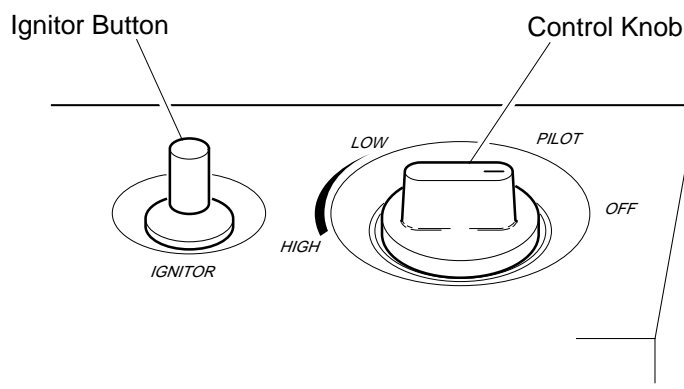

Figure 15 - Control Knob In The OFF Position
4. Wait five (5) minutes to clear out any gas. Then smell for gas, including near the floor. If you smell gas, STOP! Follow “B” in the safety information at the top of page 17. If you don’t smell gas, go to the next step.
5. Press in control knob and turn counterclockwise  to the PILOT position. Keep control knob pressed in for five (5) seconds (see Figure 15, page 17).